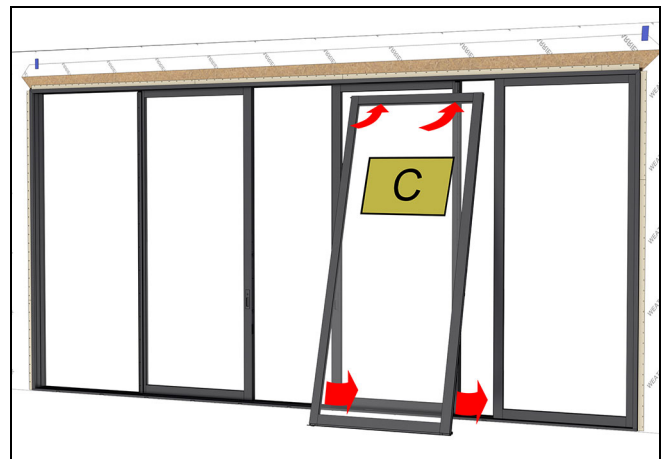

Figure 136
8. Install the (C-R) stationary panel on the exterior track, making sure the panel overlaps the (A) operator panel to leave room for the interlocks to clear. See Figure 136.